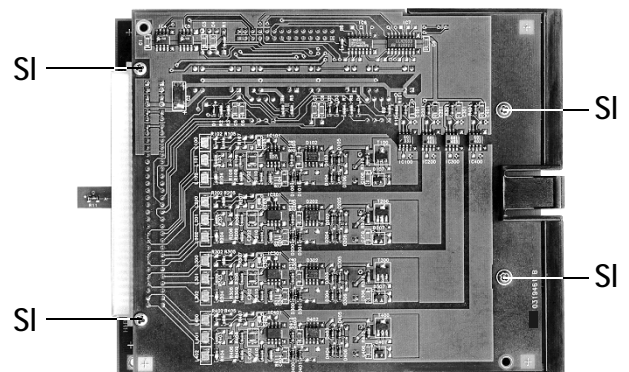

Figure 15 Undo the screws **SI** of the channel card (bottom view)
1. Undo 4 screws **SI** (see figure 15).
4. Fasten the channel card **Kk** with the 4 screws **SI** (see figure 15).